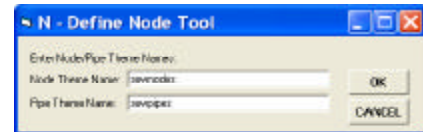

Figure 6
4. **Click** at the **N** *Define Nodes* tool in the *CEDRA-AVsand-Tools* toolbar, and then **click** at the **downstream** most node (end section at the east end of the project, node 1 in Figure 2) to display the dialog box of Figure 6.